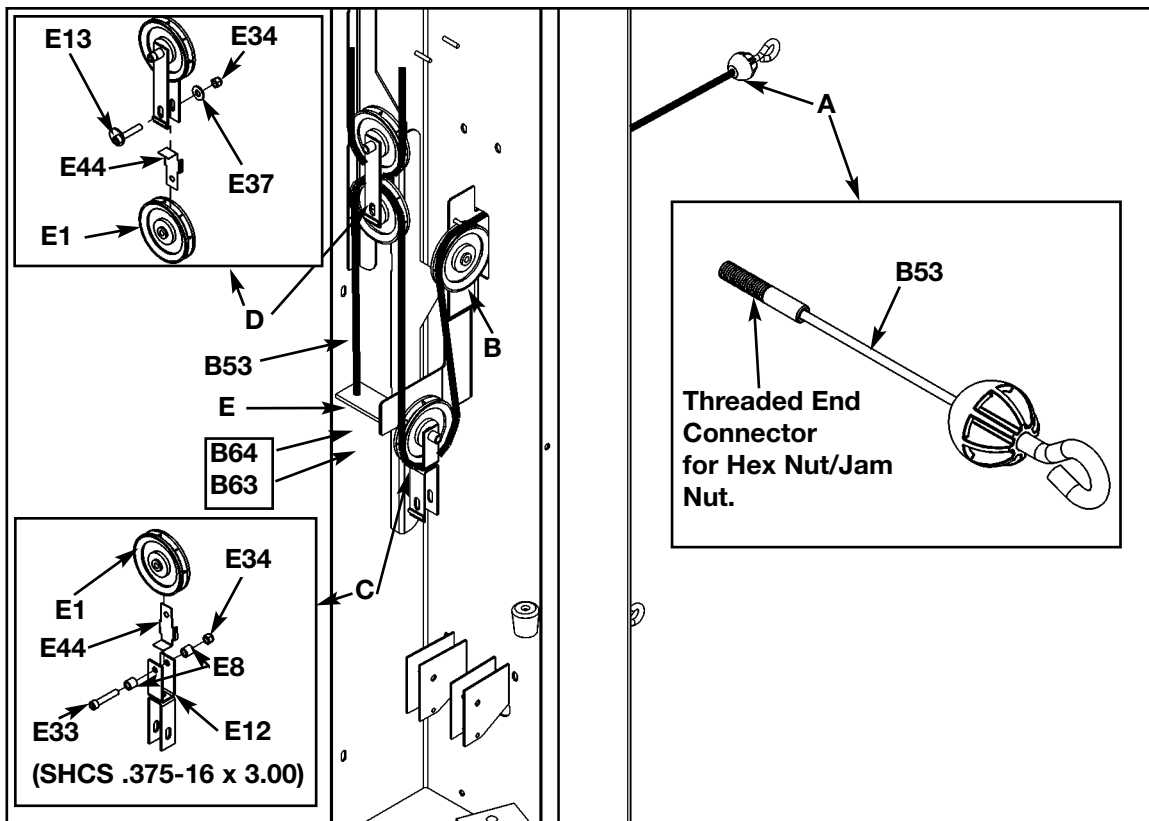

Figure 19
**11. Routing second cable** (see steps 11A - 11E and Figure 19).
- A.** Route cable (#B53) through pulley slot in column. Be sure ball on cable is on the outside of the column. See Figure 19, letter A.
- B.** At the same time route cable (#B53) and install the first pulley (#E1) using one SHCS .375-16 x 1.75 (#E39) and one nylon locknut (#E34) as shown in Figure 19, letter B.
- C.** At the same time route cable (#B53) and install pulley clevis (#E12), pulley (#E1) and cable retainer (#E44) using one SHCS .375-16 x 3.00 (#E33), one nylon locknut (#E34) and two spacers (#E8). See Figure 19, letter C. Verify cable is resting between the pulley (#E1) and the retainer tab.
- D.** At the same time route cable (#B53) and Install the third pulley (#E1) and cable retainer (#E44) using one cam bolt (#E13), one washer (#E37) and one nylon locknut (#E34). Verify that the tab on the bracket is facing outward and also verify that the cable is resting between the pulley (#E1) and the retainer tab. See Figure 19, letter D.
- E.** Route cable (#B53) downward and install hex nut (#B64) and then jam nut (#B63). Jam nut should be flush with end of cable and hex hut should be snug against jam nut, do not over tighten. Be sure brackets are snug in the "V" slots. See Figure 19, letter E.